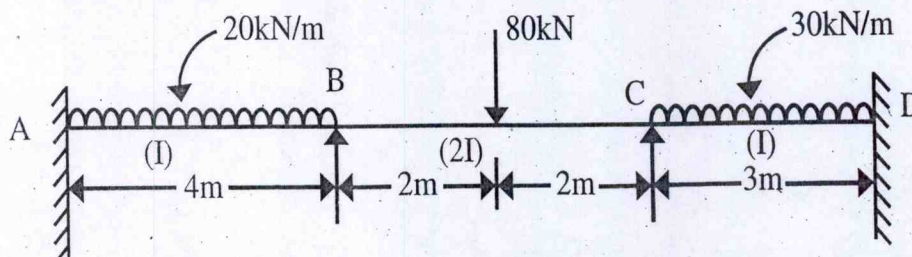

Fig.1.
- Q.1 Analyze the continuous beam using slope deflection method as shown in Fig. 1. Draw the bending moment diagram and shear force diagram. [16]